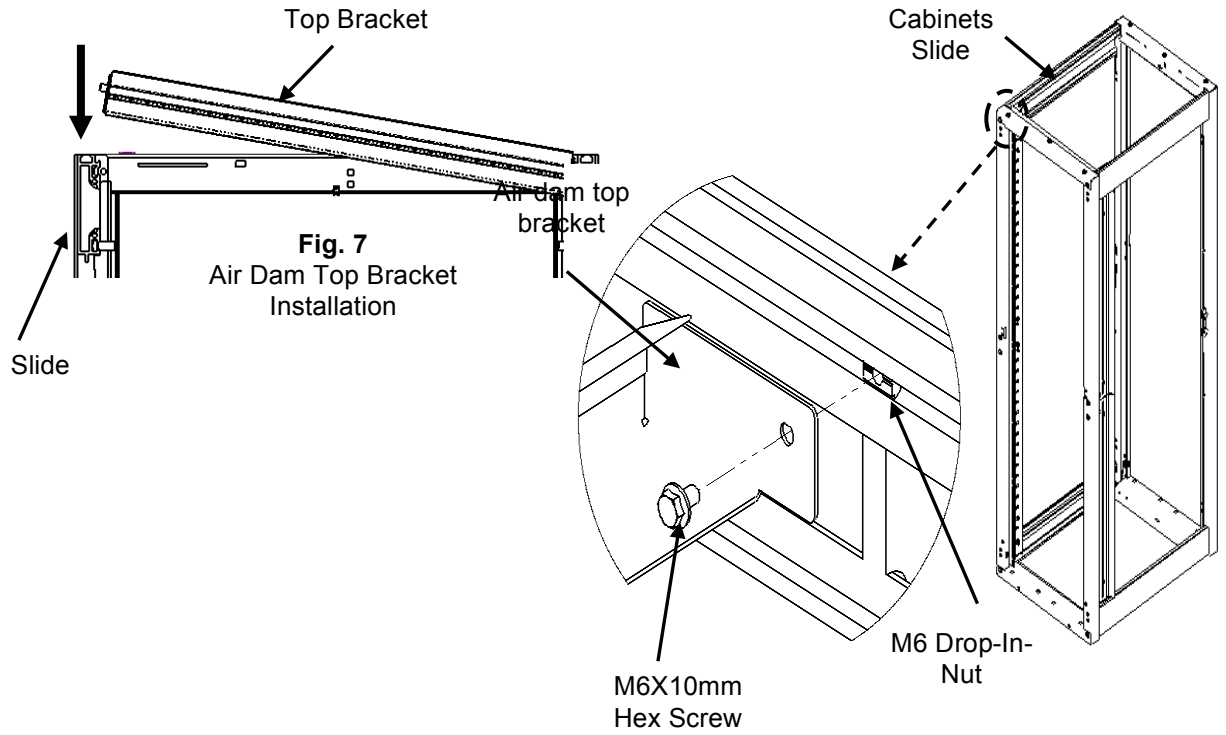

Fig. 7
5. Insert top bracket from behind the rails (Fig. 7).